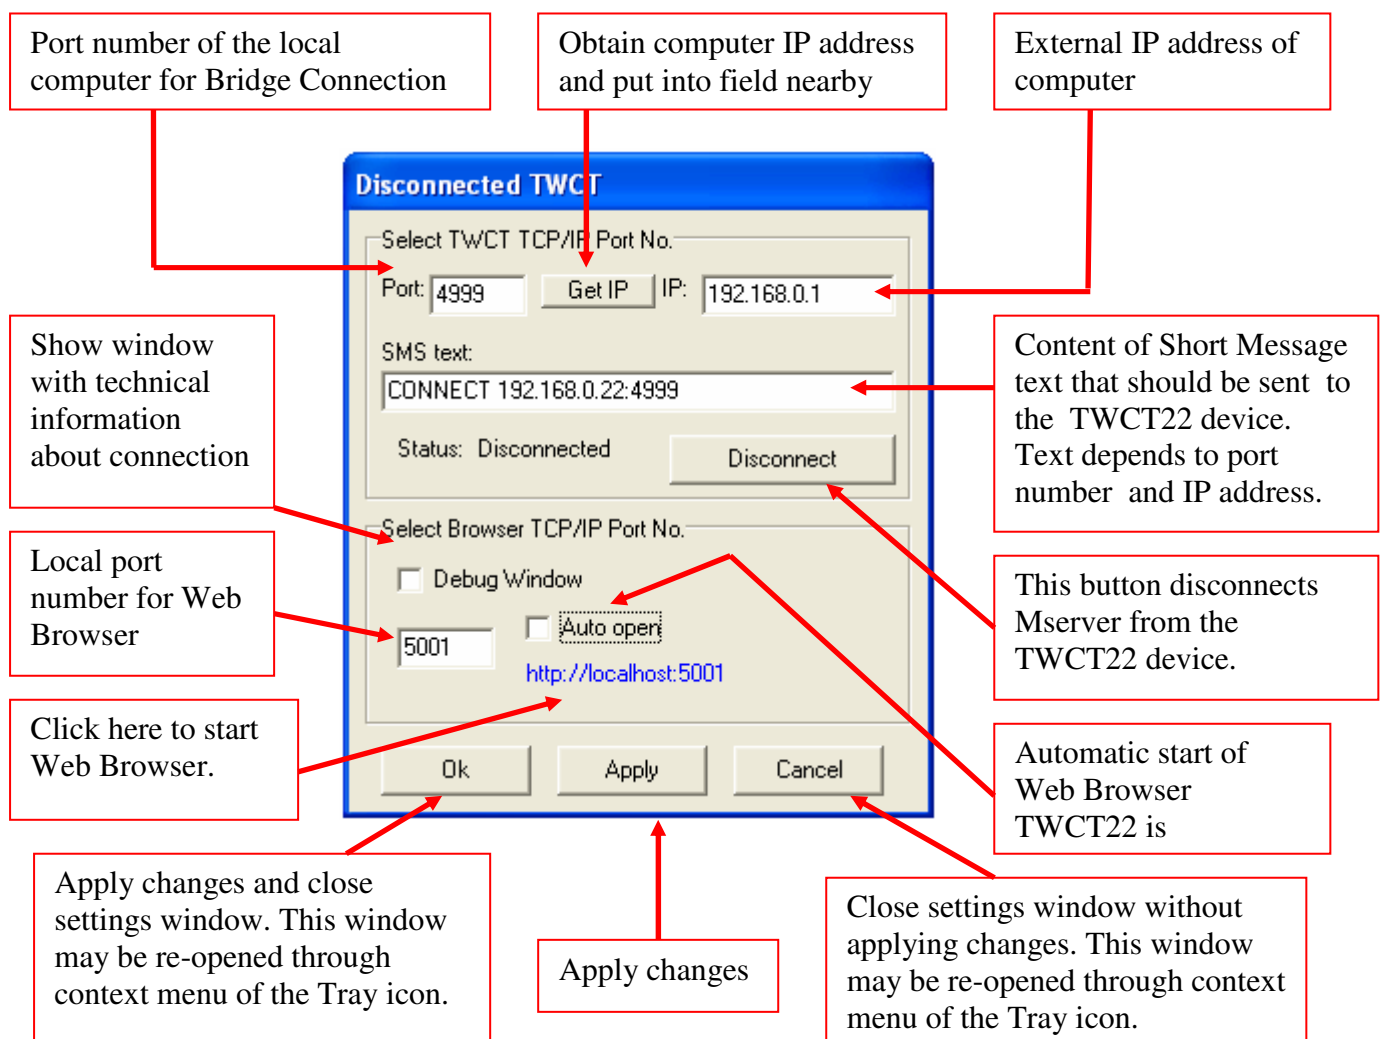

Figure 7.3.5 MServer software
2. Run MServer program from Start/Programs/Teltonika/TWCT22 directory as Server program placed. MServer Settings window (see the **Figure 7.3.5**) and Tray picture  will appear. Short Message with text "CONNECT x.x.x.x.:PortNo" is sent to TWCT22 device's phone number. Here x.x.x.x. – external IP address of the computer and PortNo – port number. TWCT22 will try to connect to specified IP address and port number once.